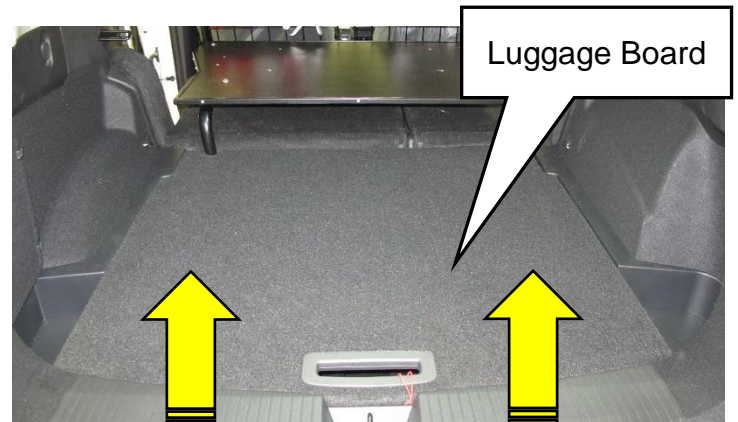

Figure 22
- Slide the board into the vehicle from the rear door. Slide the side hooks into the floor trim on each side (Figure 22)